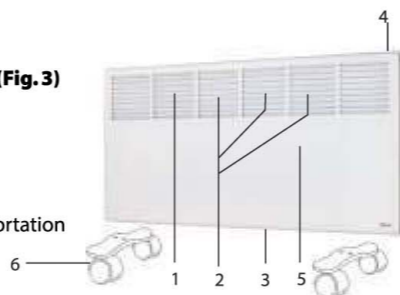

Fig. 3
4. Convector description (Fig. 3)